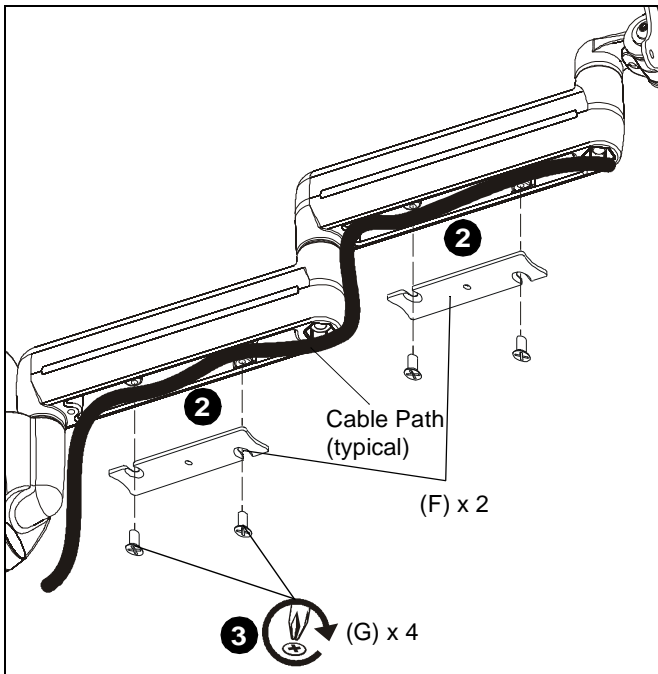

Figure 6
2. Carefully insert cables in cavity located in lower portion of mount arm. (See Figure 6)
3. Using Phillips screwdriver, install two covers (F) with four screws (G). (See Figure 6)